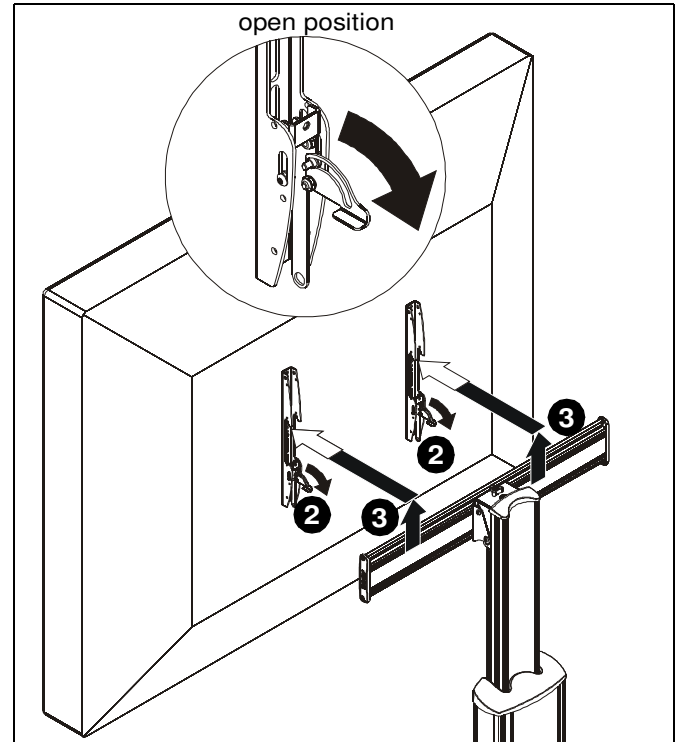

Figure 17
2. Position latches on interface uprights so that they are in the "open" position. (See Figure 17)
3. Carefully lift display from stand. (See Figure 17)